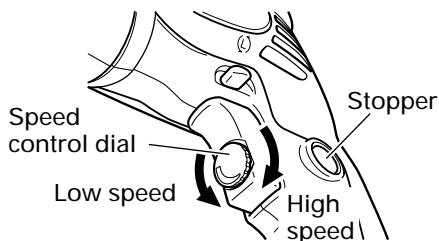

Fig. 7
- The desired rotation speed can be pre-selected with the speed control dial. Turn the speed control dial clockwise for higher speed and counterclockwise for lower speed. (Fig. 7)